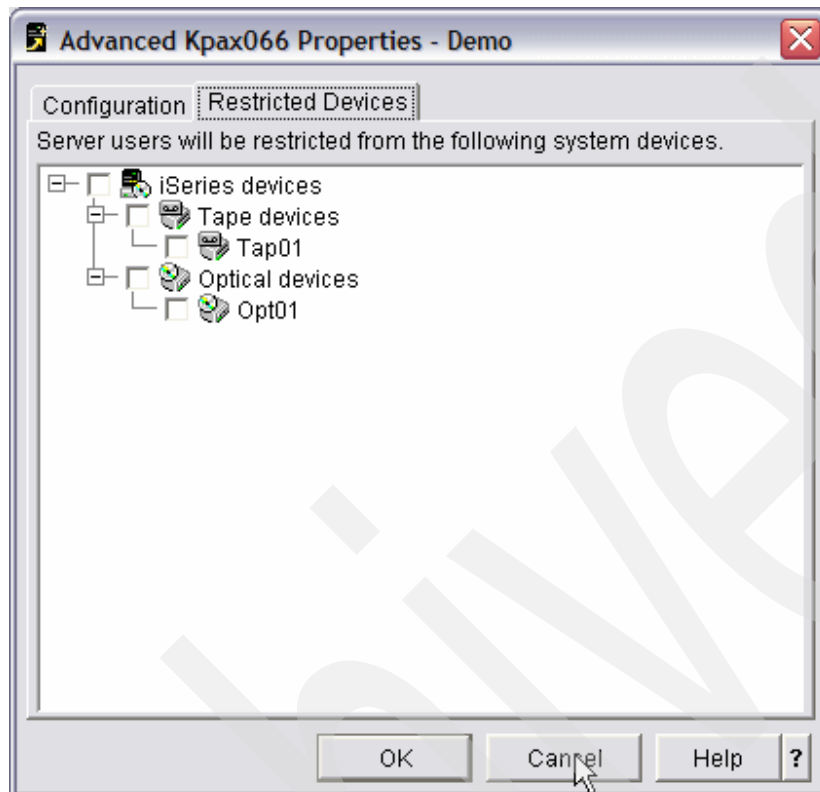

Figure 6-64 Restricted Devices tab of the Advanced button on System tab
► **Restricted Devices page information (Figure 6-64):**